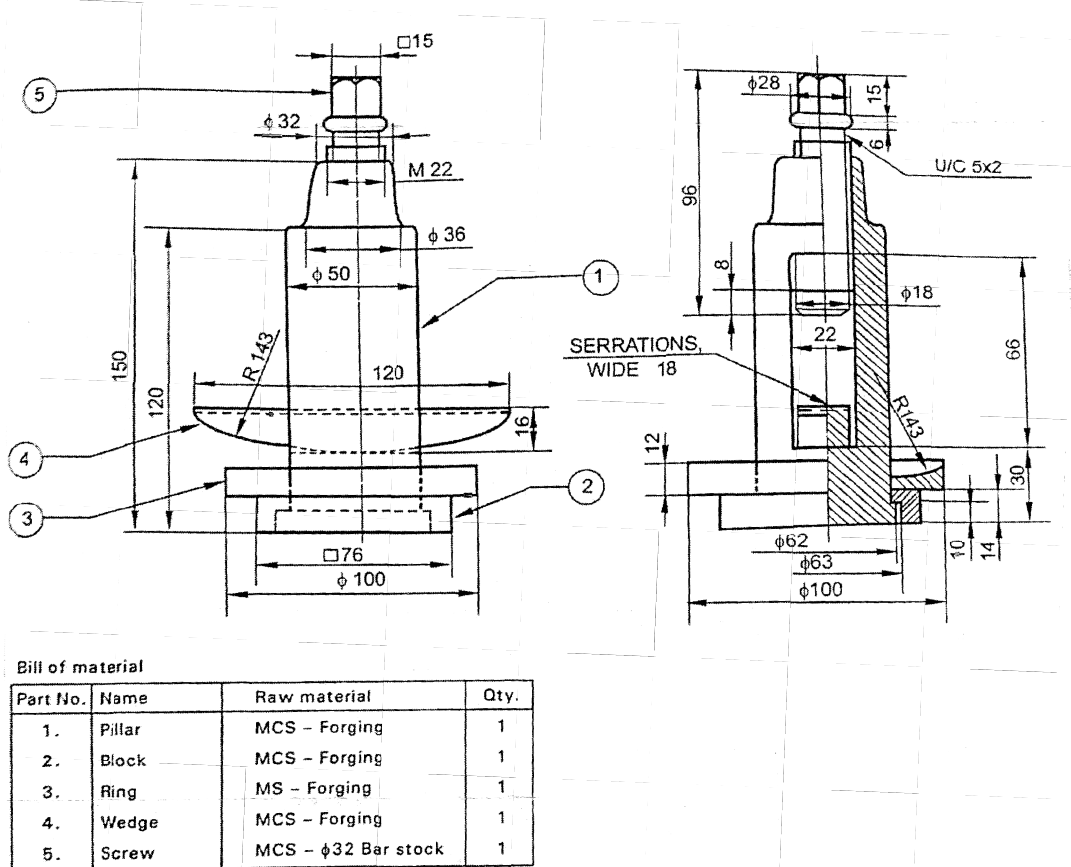

Fig. 2
6. Study the \* given assembly drawing of the tool post shown in Fig. 2.